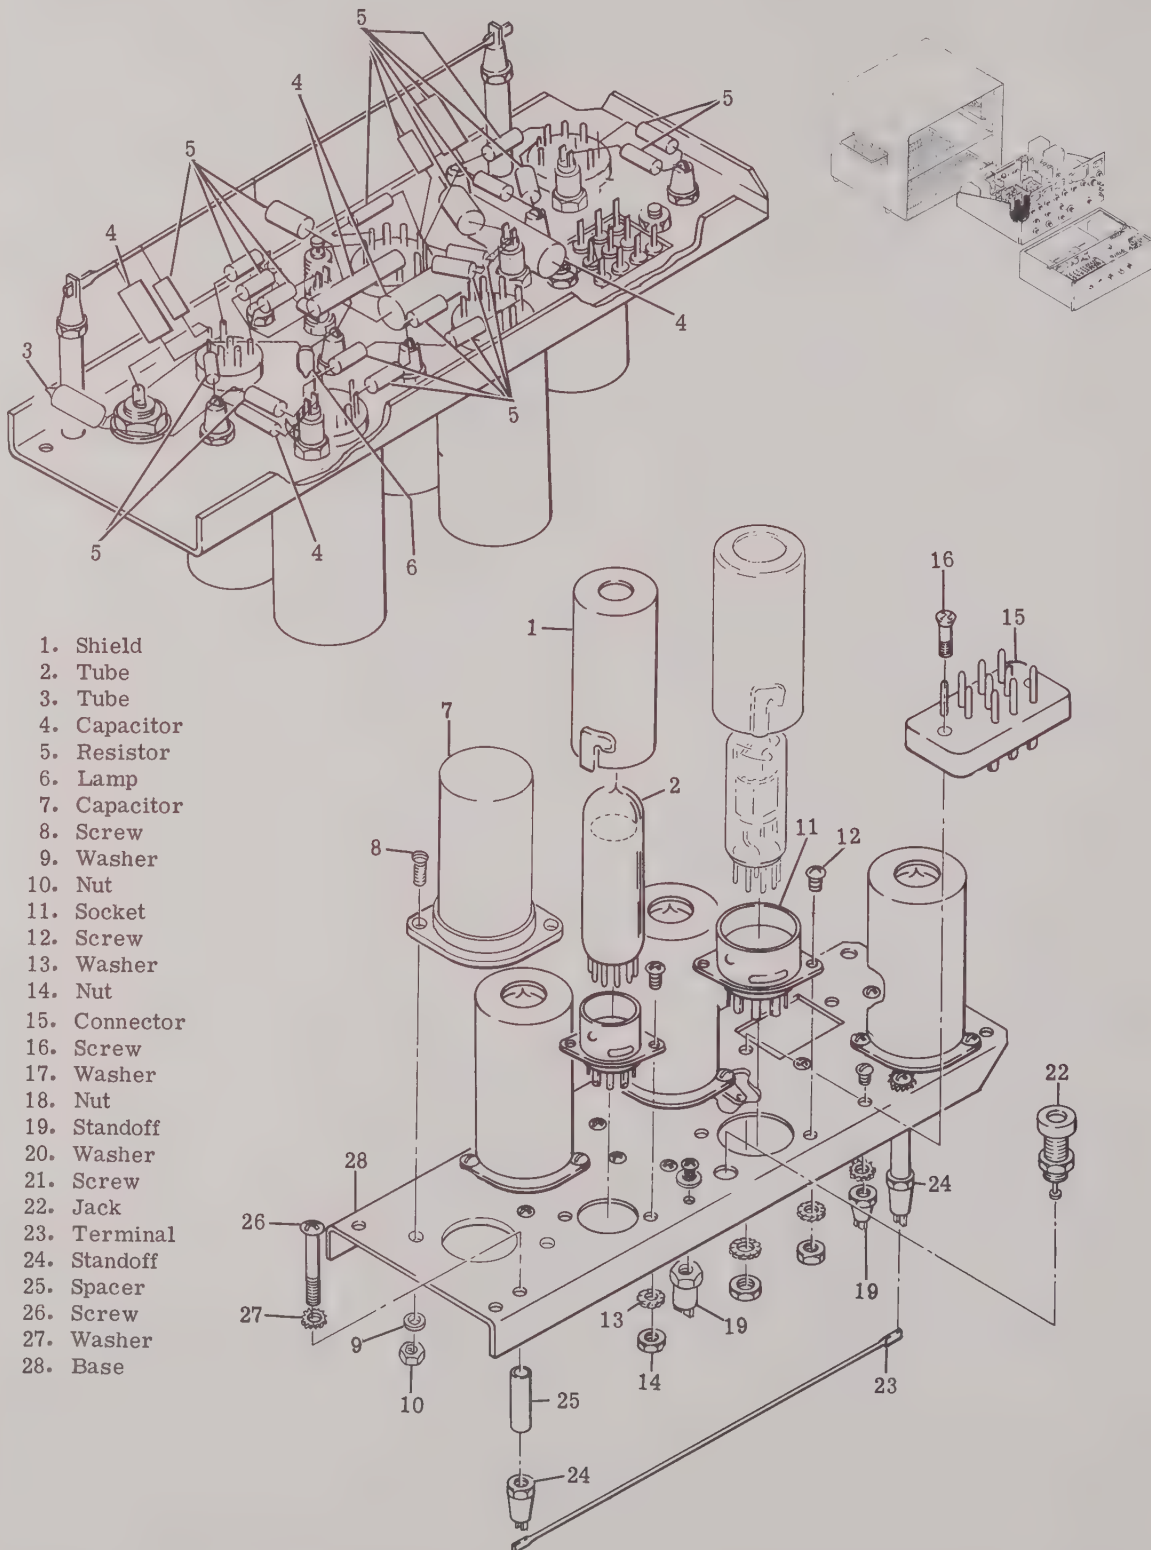

Figure 4-4. 90-Degree Amplifier
a. Remove electron tube shields (1, figure 4-4) and tubes (2 and 3).
b. Remove capacitors (4), resistors (5) and lamp (6) by unsoldering leads.
c. Remove capacitor (7) by removing screw (8), washer (9) and nut (10).
d. Remove tube socket (11) by removing screw (12), washer (13) and nut (14).
e. Remove connector (15) by removing screw (16), washer (17) and nut (18).
f. Remove standoff (19) by removing washer (20), and screw (21).